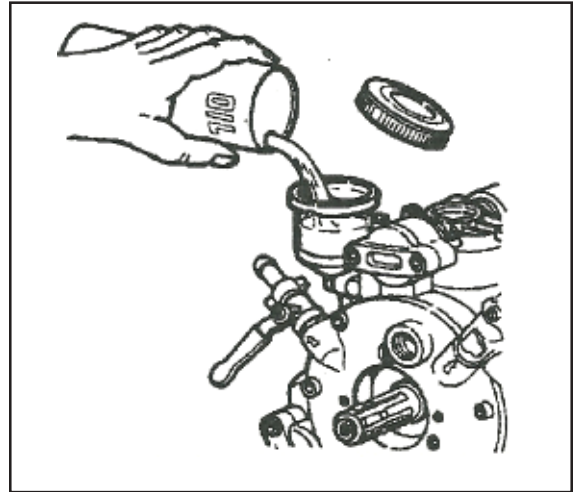
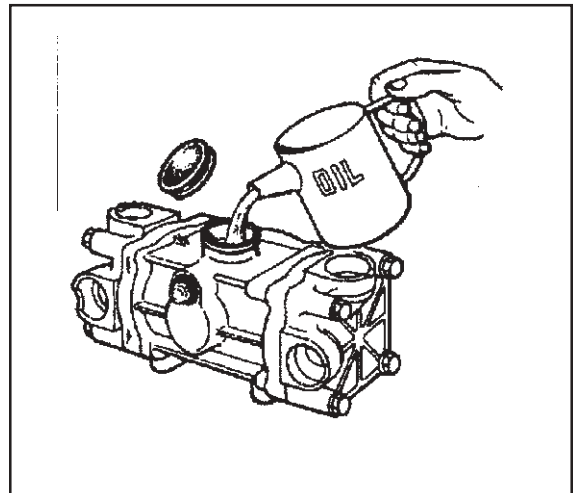

Figure 5
Figure 6
- a) if this happens during the first hours of working it is normal. Add SAE 20W/40 type oil to proper level as in Figure 5. For pump BP60 where the oil sight glass is not present, remove the diaphragm and the rubber cap, Figure 6. When remounting the manifold tighten the connecting plate screws to a torque of 17Nm.